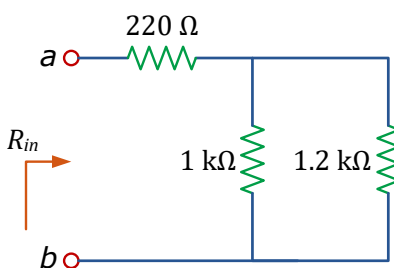

Figure 1.1: Resistive circuit for Pre-Lab 1.
- 8** Calculate the input resistance R_{in} as seen from terminals a and b of the circuit shown in Figure 1.1.